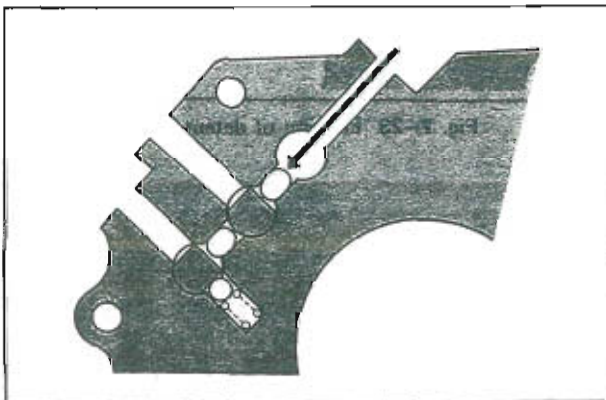

Fig. 7-26 Position of interlock pin
5. Place the third-and-top shift rod into neutral position and position the interlock pin in the bearing housing as shown in Fig. 7-26.